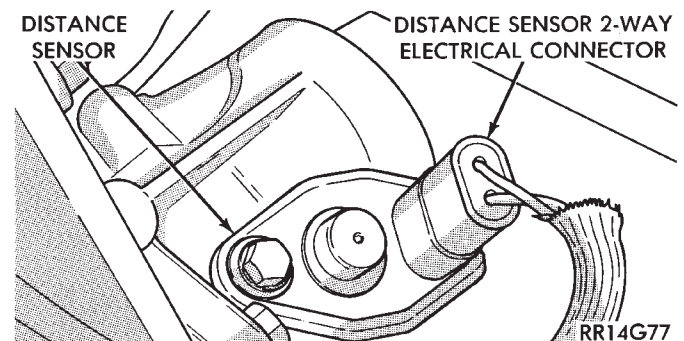

Fig. 20 Distance Sensor Wiring Connector
(29) Check all vacuum harness connections.
(30) Verify the harness connector is attached to distance sensor (Fig. 20).